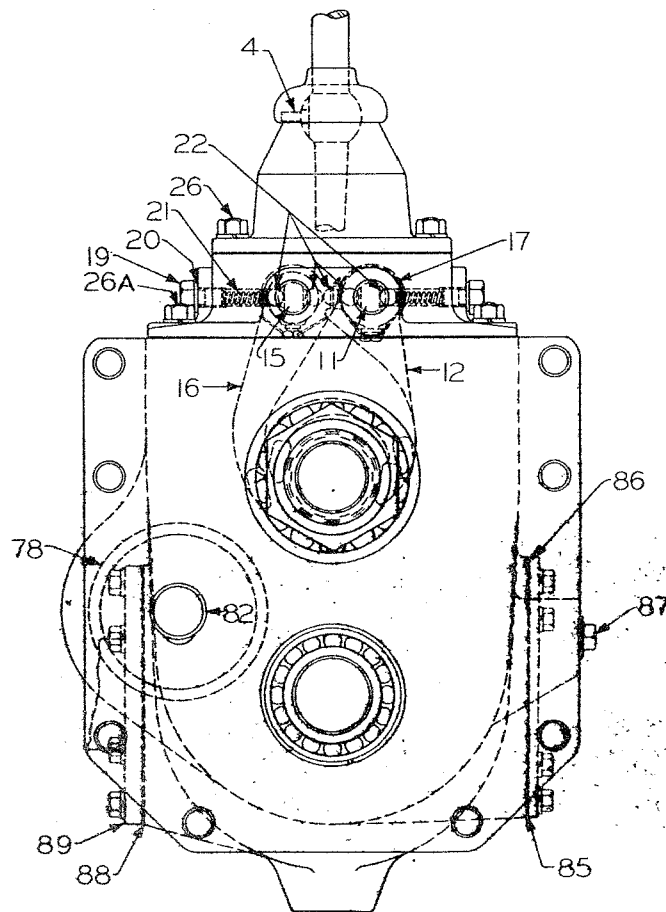

Figure 99. Transmission
Get the "feel" of all shifting positions and be sure to "feel" the spring loaded balls (78), Fig. 98, and (22), Fig. 99, drop down into the notch in the shifter rails. Then, and only then, will you know that complete tooth engagement has been obtained.
(2) Remove shift lever group with cover, after removing the nuts at (26), Fig. 99. Also remove the sheet metal cover over transmission.
98. TRANSMISSION SHIFTING COVER. (See Fig. 99)
a. It is not necessary to remove the transmission or seat box to inspect the shift rails (15) and (11). It is only necessary to remove the nuts at studs (26) and lift off the shift lever group.
d. Remove the two cap screws (19) with washers (20). The two outer springs (21) and balls (22) will now fall out.
g. The tension of springs (21) should not be too tight, otherwise hard shifting will be the result.